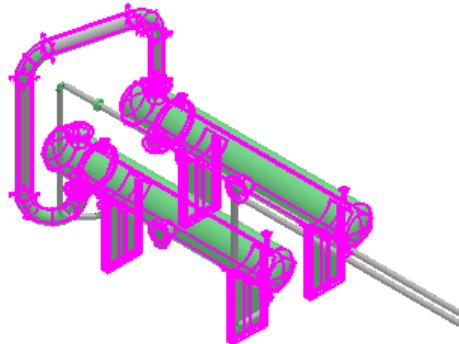

Figure 28: Selected Pipe Run and Equipments
5. While holding the CTRL key, select the equipments **40E-101A** and **40E-101B** along with the pipe run, as shown in Figure 28.